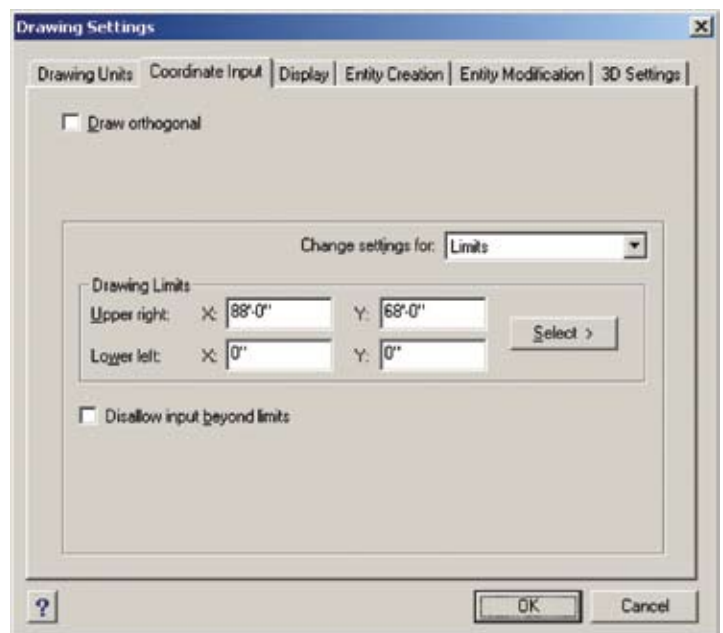

Figure 12-3
- 5. **Enter 88', 68'** to establish the upper right boundary limit. See Figure 12-3.